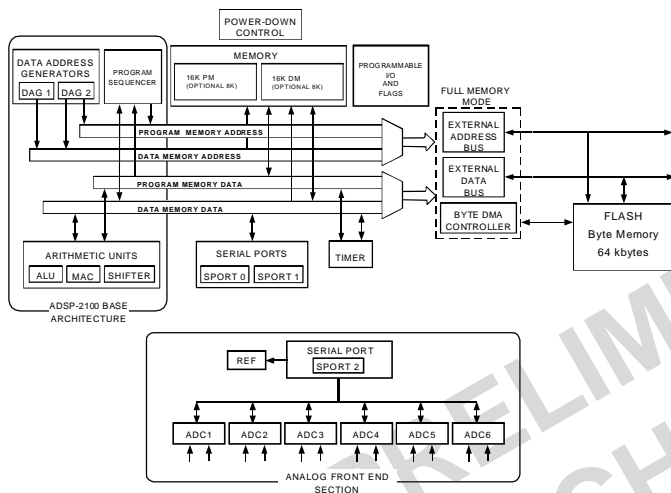

Figure 1. Functional Block Diagram
Figure 1 is an overall block diagram of the AD73560. The processor section contains three independent computational units: the ALU, the multiplier/accumulator (MAC) and the shifter. The computational units process 16 bit data directly and have provisions to support multiprecision computations. The ALU performs a standard set of arithmetic and logic operations; division primitives are also supported. The MAC performs single-cycle multiply, multiply/add and multiply/subtract operations with 40 bits of accumulation. The shifter performs logical and arithmetic shifts, normalization, denormalization and derive exponent operations. The internal result (R) bus connects the computational units so that the output of any unit may be the input of any unit on the next cycle.